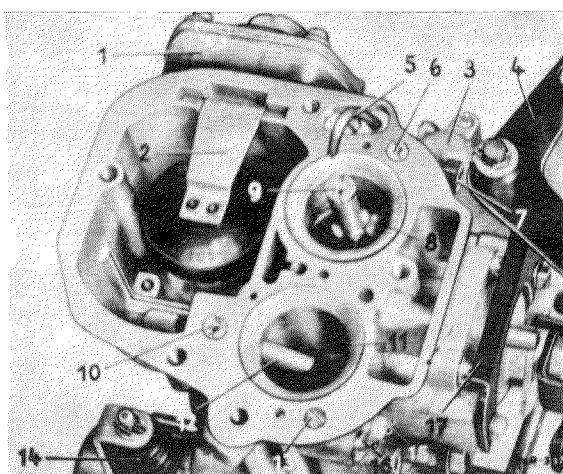

Fig. 07 — 3/1
2. Take out the plastic float (2) together with the anchor and unscrew the injection tube (5), together with gasket (Fig. 07 — 3/1).
3. Unscrew the air correction jet (9) and the mixing tube of Stage 1 and also the air correction jet (10) and the mixing tube of Stage 2 (Fig. 07 — 3/1).
4. Unscrew the idle air jet (6) of Stage 1 and the grub screw (13), which is installed instead of the idle air jet of Stage 2 (see Fig. 07 — 3/1).
5. Unscrew the fixing screws (4) of the Bowden cable bracket at the starter mechanism and also the hexagon nut by which the relay lever (1) is fixed. Then remove the linkage assembly for the start mechanism (Fig. 07 — 3/2).